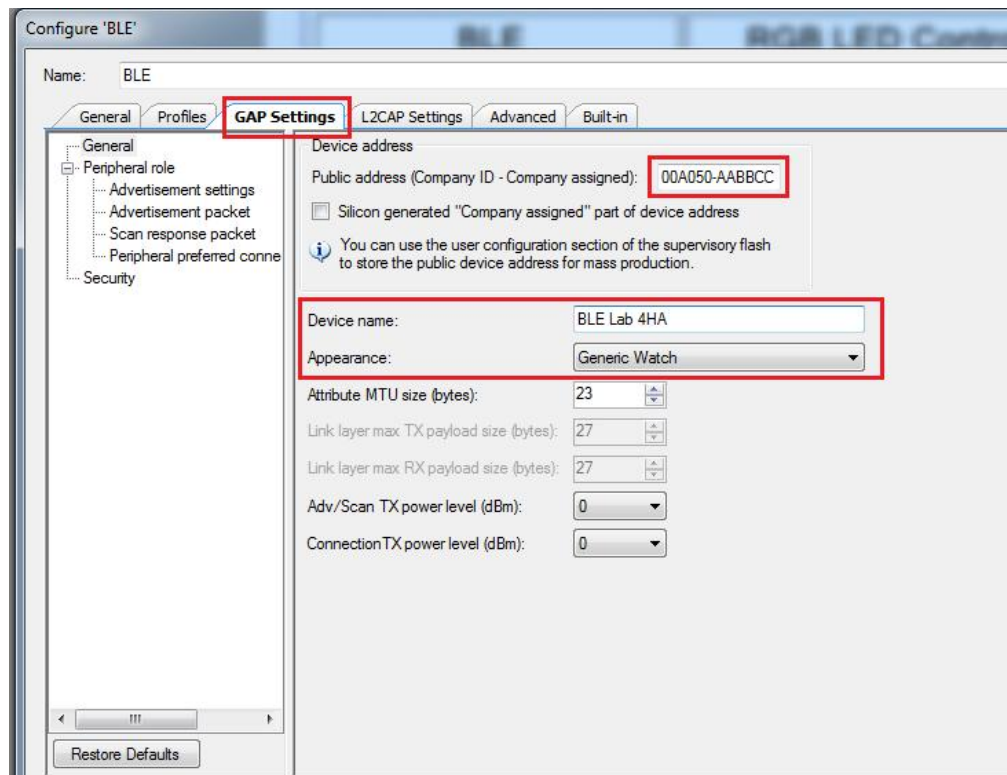

Figure 10: GAP Settings - General
3.4.1 General - Set the Device Address, Device name, and Appearance as shown in Figure 10.